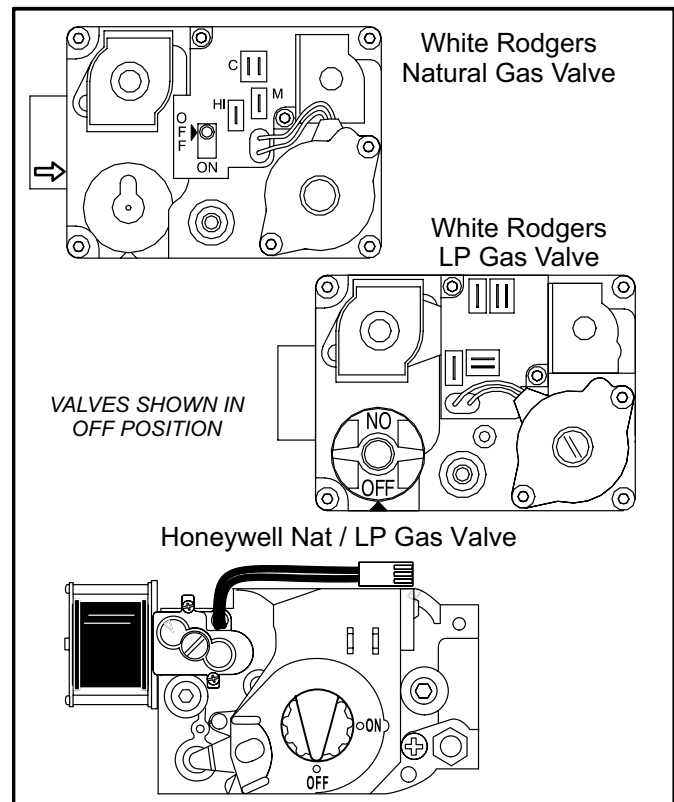

FIGURE 50
How To Operate Gas Valve (Figure 50)
- 6 - WhiteRodgers natural valve, move lever to **OFF**. WhiteRodgers propane and Honeywell valve, turn knob to **OFF**. Do not force. See figure 50.
- 7 - Wait five (5) minutes to clear out any gas. If you then smell gas, **STOP!** Immediately call your gas supplier from a neighbor's phone. Follow the gas supplier's instructions. If you do not smell gas go to next step.